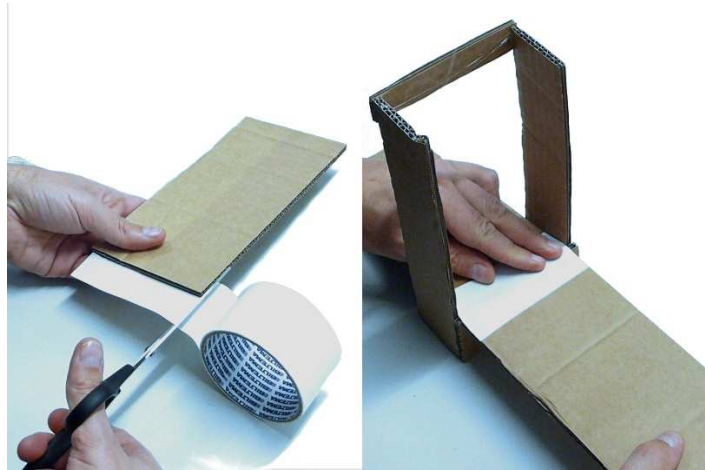

Figure 6. Stick a piece of sticky tape on piece **E** and attach it to the bridge
6. Attach the movable bridge span **E** (fig. 6):